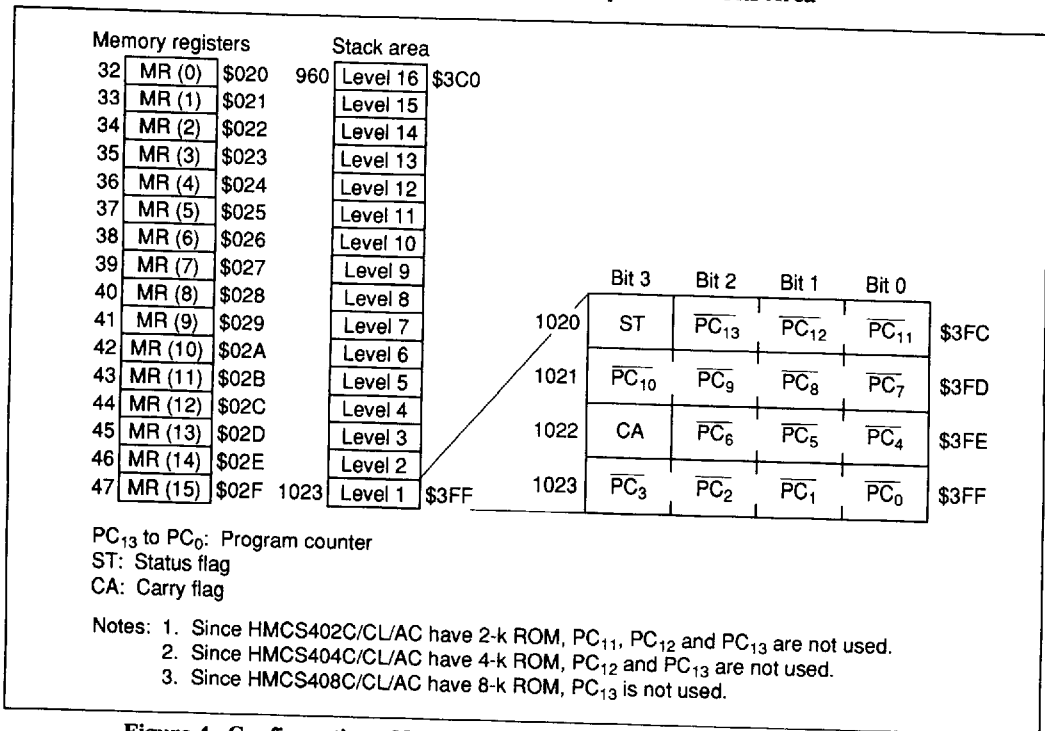

Figure 4 Configuration of Memory Registers, Stack Area, and Stack Position
Data Area (HMCS402C/CL/AC: \$020 to \$07F, HMCS404C/CL/AC: \$020 to \$0DF, HMCS408C/CL/AC: \$020 to \$1DF): The 16 digits of \$020 through \$02F are called memory registers (MR) and are accessible by the LAMR and XMRA instructions (figure 4).
Stack Area (\$3C0 to \$3FF): Locations \$3C0 through \$3FF are reserved for LIFO stacks to save the contents of the program counter (PC), status flag (ST), and carry flag (CA) when subroutine calls (CAL or CALL instruction) and interrupts are processed. This area can be used as a 16-level nesting stack in which one level requires 4 digits. Figure 4 shows the save condition. The program counter is restored by the RTN and RTNI instructions. Status and carry flags are restored only by the RTNI instruction. This area, when not used as a stack, is available as a data area.